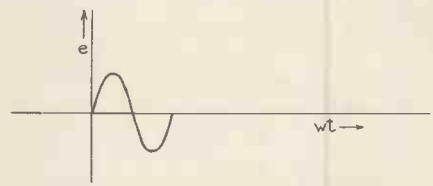

Fig. 9.—A suddenly applied A.C. pulse.
Finally, in the case of the single A.C. pulse, shown in Fig. 9, and represented by equation (6), we have two sets of side bands present, the